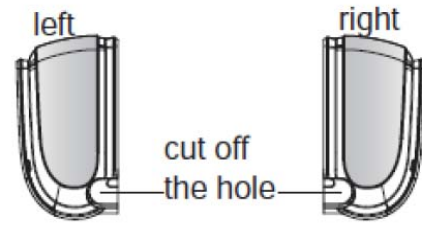

Fig. 16 – Remove Knockouts
1. Use a small saw blade to carefully remove the corresponding plastic covering on side panel and drill the appropriate size hole where the pipe is going through the wall. See Fig. 16.